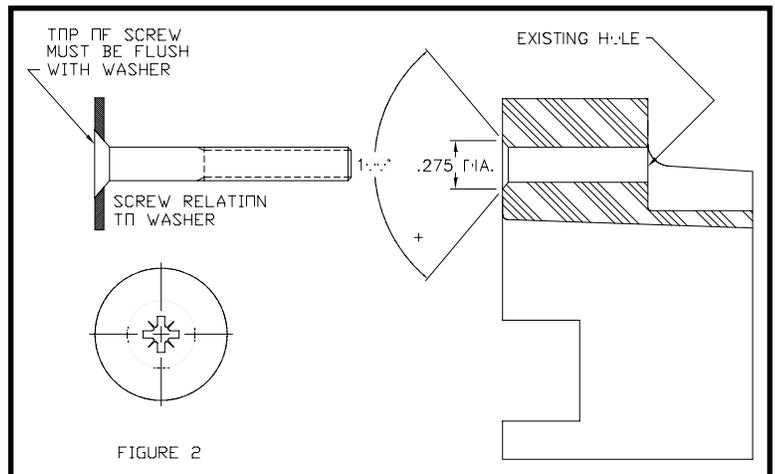

FIGURE 2
- C. CHECK THAT HEAD OF SCREW IS FLUSH OR SLIGHTLY BELOW WASHER (FIGURE 2)
- 4) CHAMFER ALUMINUM HUB (#55060/55065) WITH 100 DEGREE COUNTERSINK TOOL UNTIL LARGE DIAMETER IS .275 MINIMUM (FIGURE 2)